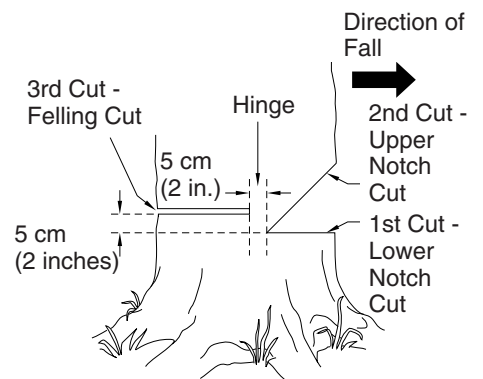

Figure 12 - Felling A Tree
A properly placed felling notch will determine direction tree will fall. Place felling notch on side of tree in direction you want tree to fall (see Figure 12). Follow directions below to create a felling notch.
1. Make lower notch cut as close to ground as possible. Hold saw so guide bar is horizontal. Cut 1/3 the diameter of tree trunk (see Figure 12). *Note:* Always make this horizontal lower notch cut first. If you make this cut second, tree can pinch chain or guide bar.
2. Start upper notch cut the same distance above first cut as first cut is deep. *Example:* If lower notch cut is 20 centimeters deep (eight inches), start upper notch cut 20 centimeters (eight inches) above it. Cut downward at 45° angle. The upper notch cut should meet end of lower notch cut (see Figure 12).
1. Make felling cut five centimeters (two inches) higher than lower notch cut and on opposite side of tree (see Figure 12). Keep felling cut parallel to lower notch cut.
- ##### **⚠ WARNING:** Do not cut all the way through tree. Leave about five centimeters (two inches) of tree diameter uncut directly behind felling notch (see Figure 12). This uncut portion acts as a hinge. The hinge helps keep tree from twisting and falling in wrong direction.